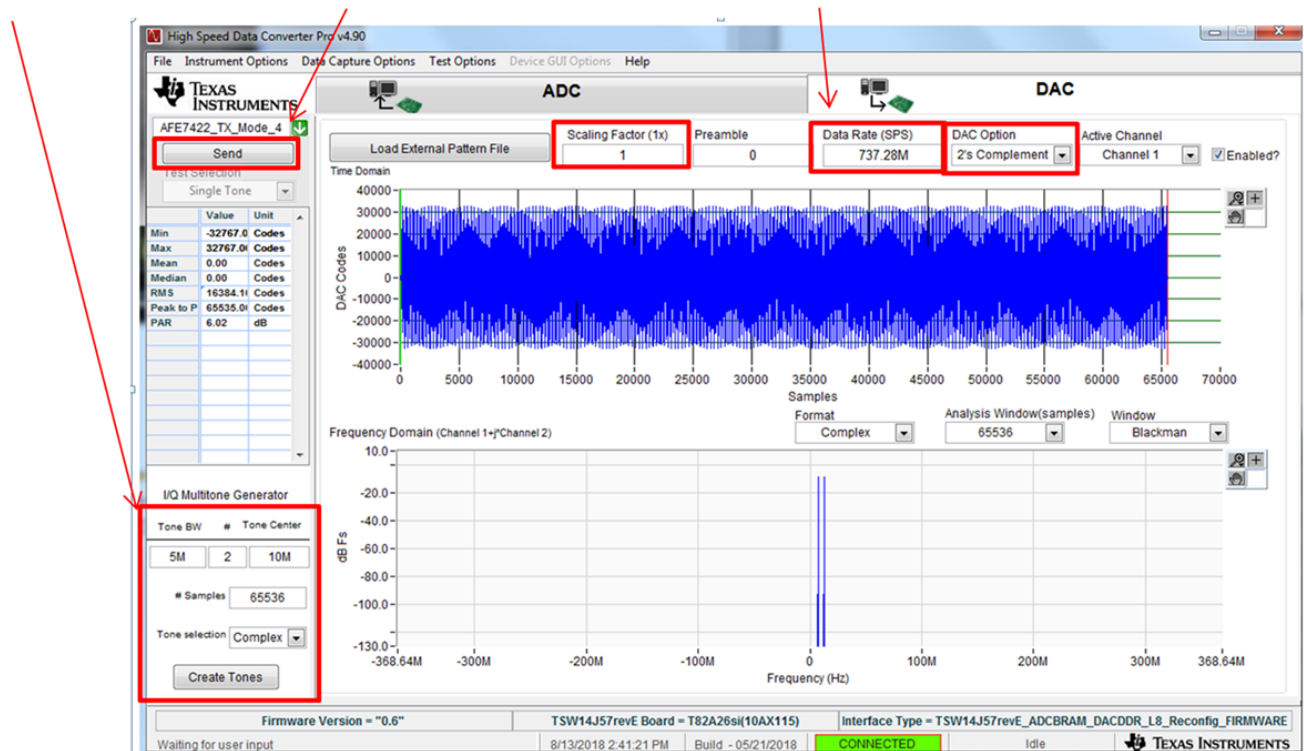

Figure 5. HSDC Pro DAC Tone Setup
2. Select the ini file from the drop-down menu, and then select the AFE74xx\_TX\_Mode\_4 file, as shown in Figure 5).
4. Enter the following parameters to generate two tones, as shown in Figure 5.
- b. Navigate back to HSDC Pro and click *Send*, labeled as 5 in Figure 5.
8. Navigate back to HSDC Pro and click *Send*, labeled as 5 in Figure 5